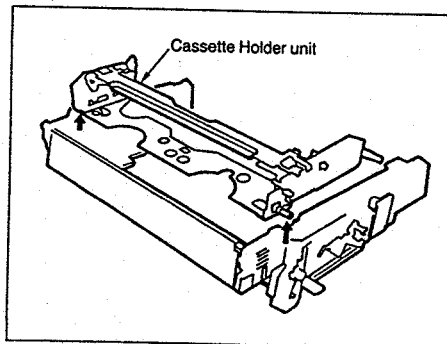

FIG. D20 Removal of cassette holder unit.
4. Take the cassette Holder unit out as shown in FIG. D20.
9. Reinstall the cassette holder unit as just the reverse way of item 4, FIG. D20.